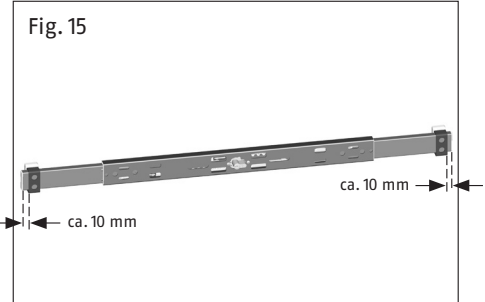
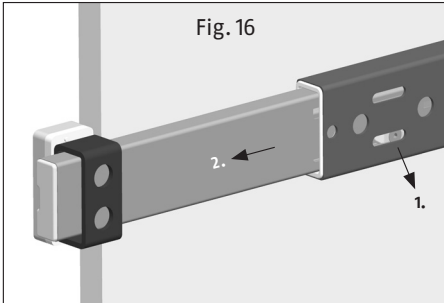

Fig. 15
Fig. 16
- The bolts should project approx. 10 mm (Fig. 15) from the lock casing.
- Even out the folding thicknesses with plastic washers (Fig. 16).
Close the door bar and remove the key. Attach the lock case to the door bar (Fig. 15). If there is no suitable attachment point, loosen the door bar adjusting screw (1.) according to Fig. 16 and move the door bar casing until such time as a suitable mounting point is reached. Mark the lock case position.